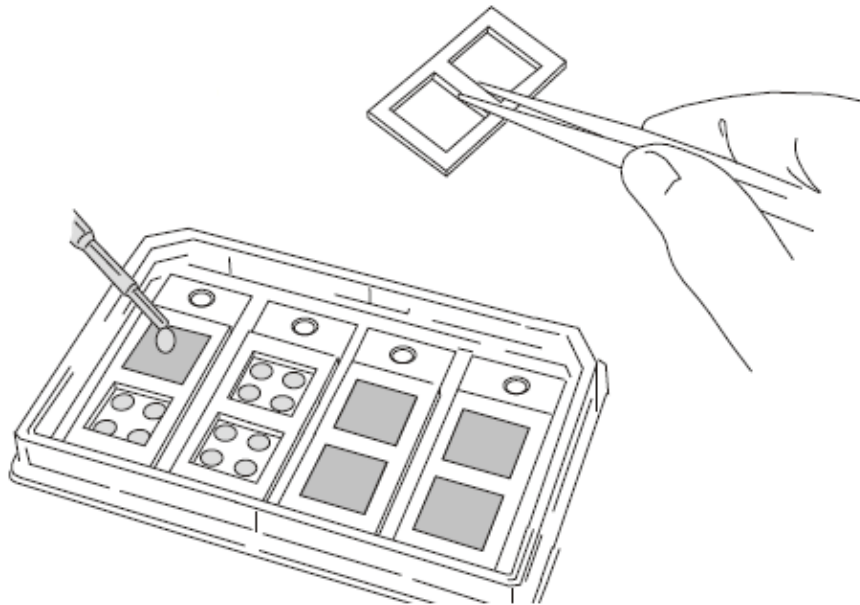

Figure 4
4. Cultures may be sub-divided or isolated by applying “press-to-seal” silicone well dividers (sold separately as part 103201) as shown in Figure 4. After cultivation, cells may be washed, fixed and stained in the plate using standard protocols.